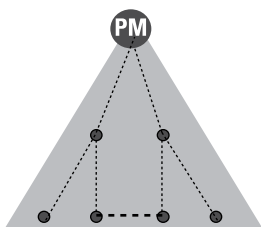

Figure 9-3: The hierarchy with a bridge.
- ❑ **The bridge:** If you are stuck with hierarchical communications in your organisational environment, you may be able to set up some ‘bridges’ to allow specialists in different teams or parts of the organisation to communicate directly on particular aspects of the project. Figure 9-3 shows a hierarchy with a bridge.